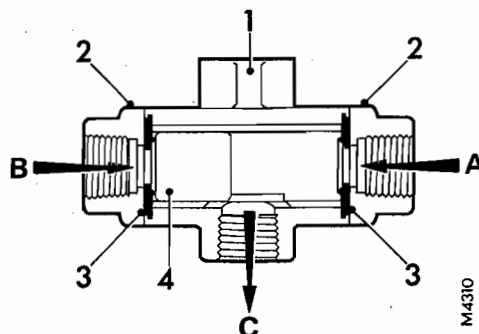

FIG. 1 SECTION THROUGH DOUBLE CHECK VALVE
1. Connect an air supply, which can be varied between 0.703 to 7.03 kgf/cm² (10 to 100 lbf/in²) to ensure perfect sealing under all conditions, first to connection 'A' Fig. 1, and note that a free flow is obtained at connection 'C'. The latter should then be plugged and all joints and connection 'B' should be tested for leakage with soap and water.